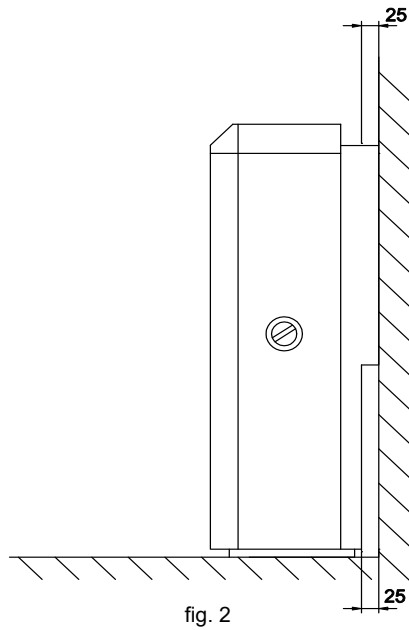

fig. 2
5.- Attach the LH & RH spacers to the storage heater using the screws supplied, in the same way as the screws are fixed in the upper rear section of the heater side. Check the heater is separated 25mm from the wall at the top and bottom of the heater (Fig. 2). Fit and screw the appliance to the anti-tilt device.